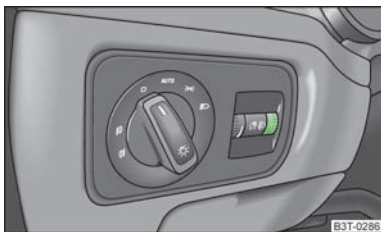

Fig. 36
- Turn the control dial » Fig. 36 to the desired width of illumination.